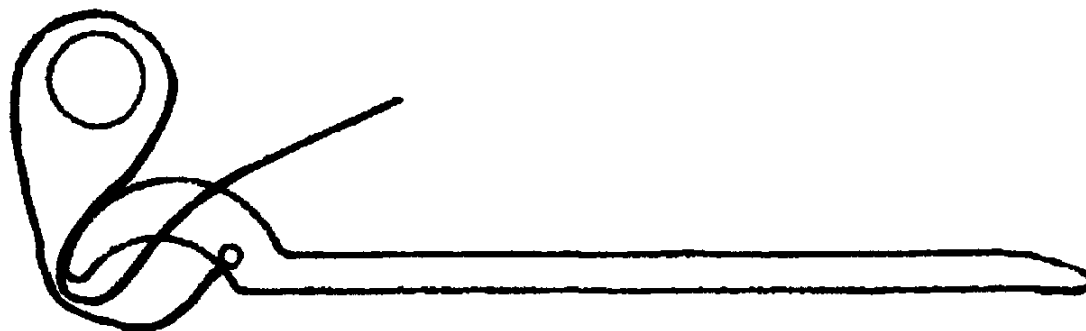

Figure 5
5. Strap the slow open/close device T13444 (Fig. 5) around the interphase shaft 10204 (Fig. 1). Refer to Plate 2.